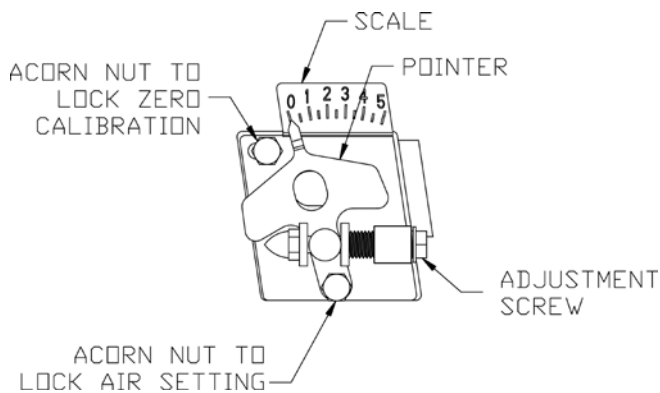

Figure 36: Head/Air Adjustment Plate Assembly
- m. Loosening the splined nut and lower acorn nut, and, turning the adjustment screw, either forward or, rearwards, will adjust the head/air plate. DO NOT LOOSEN UPPER LEFT ACORN NUT, which locks zero head/air setting. See Figure 36.
Move the Head/Air Setting forward or back one position at a time to optimize the smoke and CO₂ readings. See Figure 36.